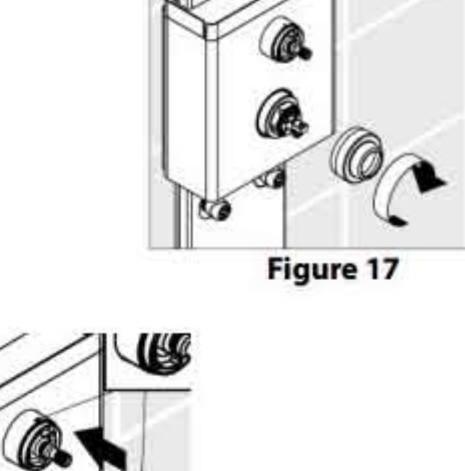

Figure 14
- Once you ensure that the connections are watertight, push the diverter stem down to turn the water off to the panel. (See Figure 14.)